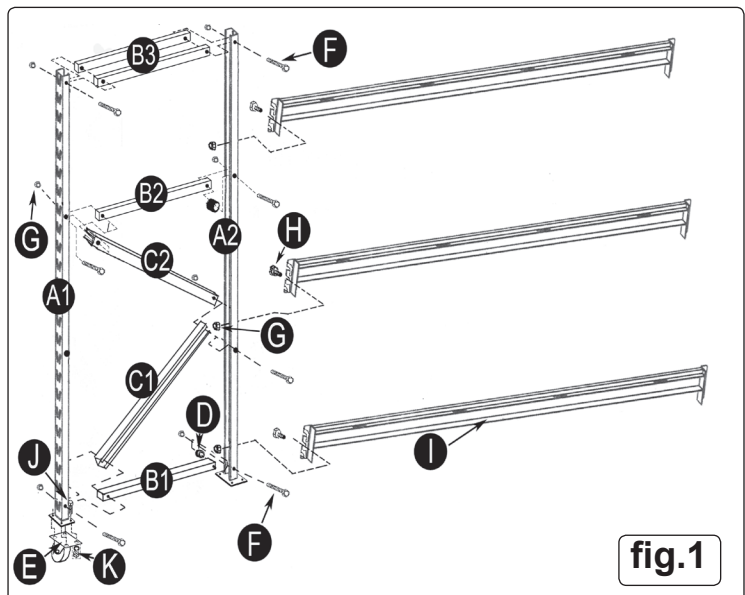

fig.1
Carefully unpack the product and check the contents (fig.1) against the list below. Should any items be missing or damaged, immediately contact your Sealey stockist.
5.2. ASSEMBLING THE END FRAMES (fig.1)